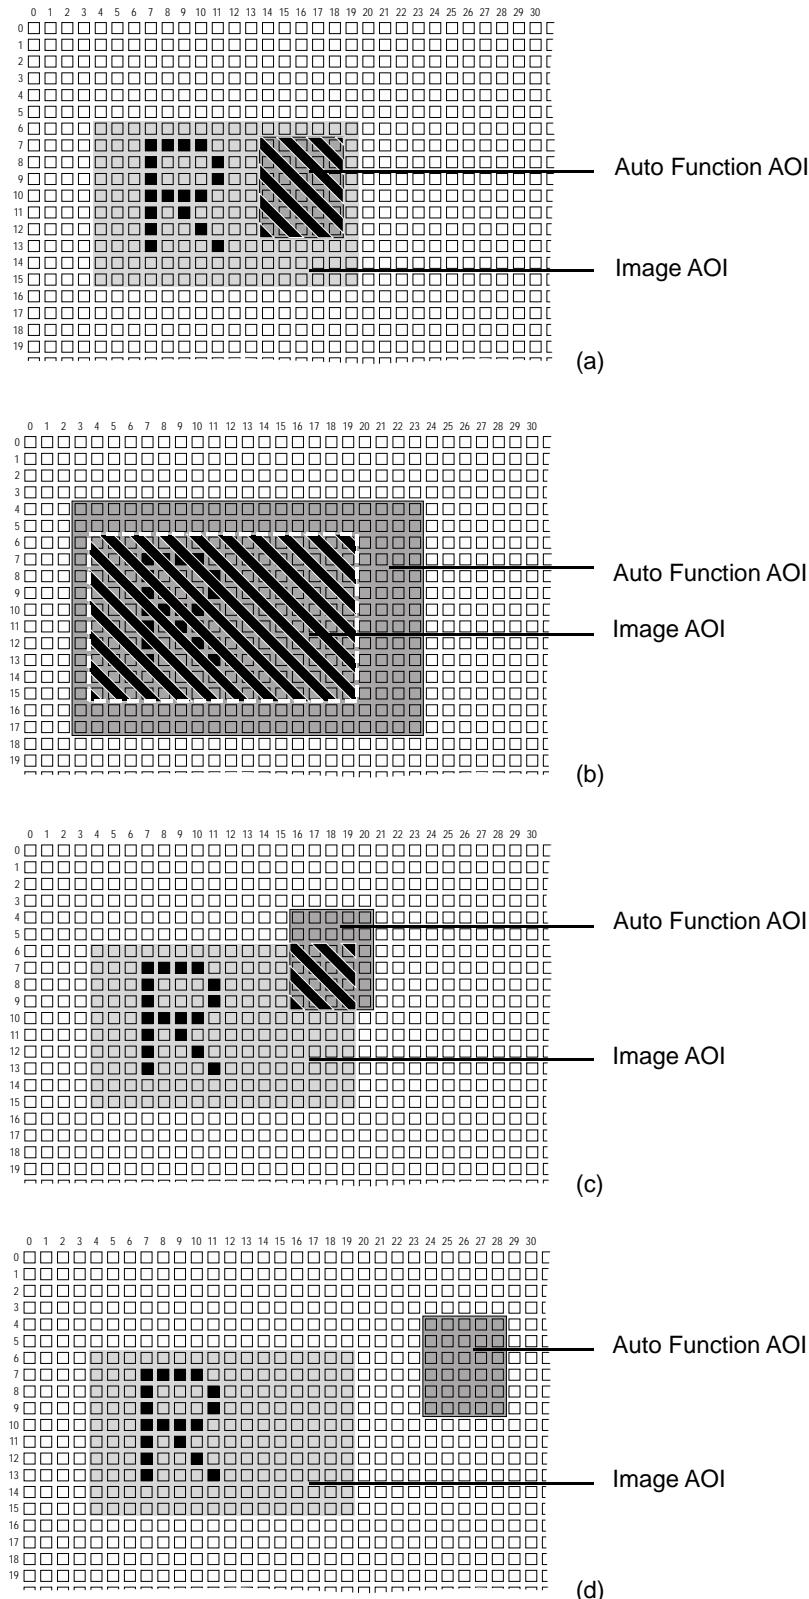

Fig. 140: Various Degrees of Overlap Between the Auto Function AOI and the Image AOI
Different degrees of overlap are illustrated in Figure 140. The hatched areas in the figure indicate areas of overlap.
- If the Auto Function AOI is completely included in the Image AOI (see (a) in Figure 140), the pixel data from the Auto Function AOI will be used to control the image property.
- If the Image AOI is completely included in the Auto Function AOI (see (b) in Figure 140), only the pixel data from the Image AOI will be used to control the image property.
- If the Image AOI only partially overlaps the Auto Function AOI (see (c) in Figure 140), only the pixel data from the area of partial overlap will be used to control the image property.
- If the Auto Function AOI does not overlap the Image AOI (see (d) in Figure 140), the Auto Function will not or only to a limited degree control the image property. For details, see the sections below, describing the individual auto functions.